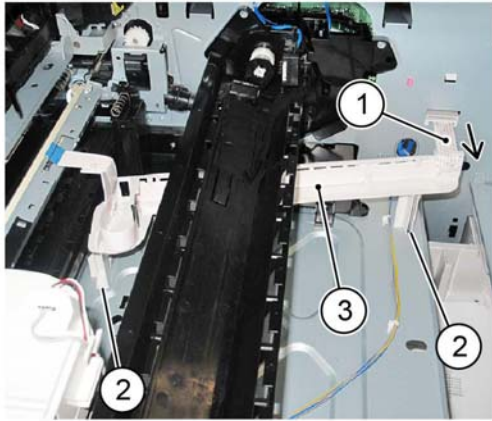

Figure 9 Assembly removal
11. Remove the harness assembly, Figure 9:
- a. Pull the FFC cable (1) toward the inside of the machine.
- b. Disengage the hooks (2) on the foot, then remove the harness assembly (3).